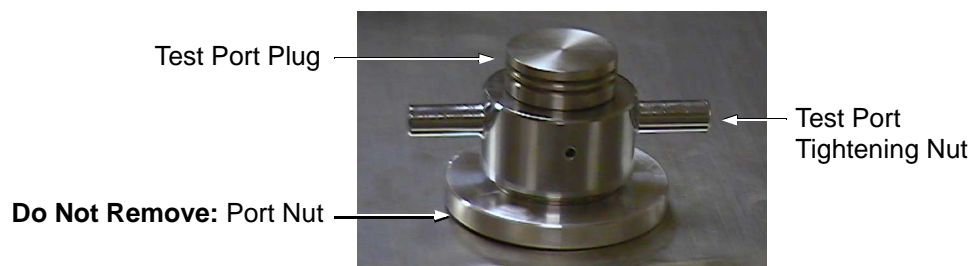

Figure B-3 The Test Port
5. Remove the test port plug (Figure B-3), the test port compression ring and the O-ring from the top of the test port.